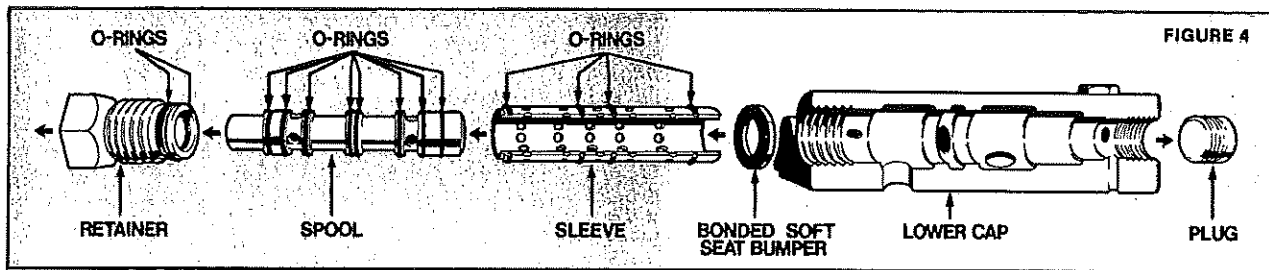

FIGURE 4
1. Pump will not cycle and air exhausts continuously from muffler (see fig. 4 page 8).